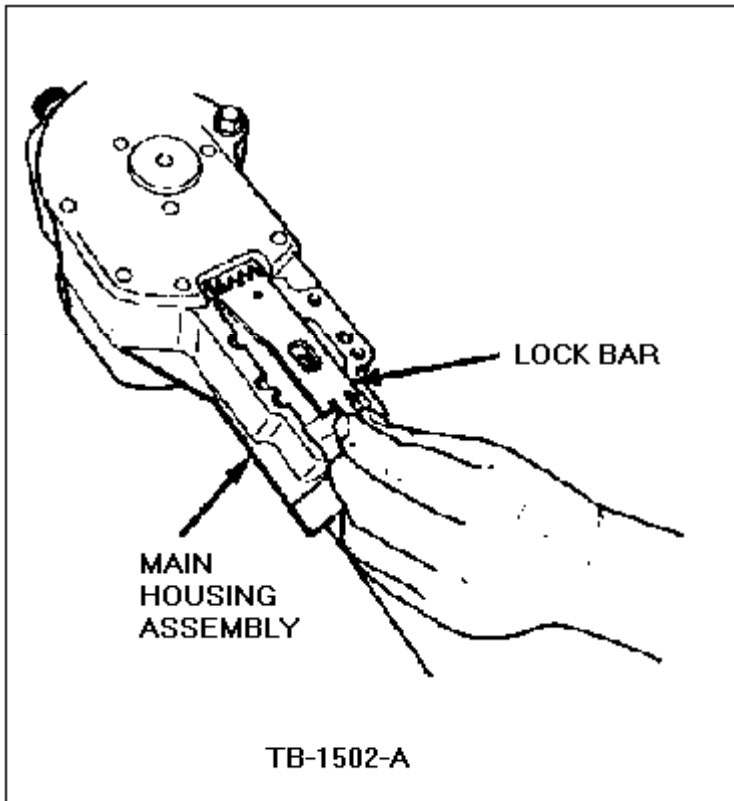

Figure 35 - Article 90-5-10
33. Lightly grease and assemble the lock bar onto the main housing with the locking pin up, engaging the teeth with the support bracket teeth, Figure 35.